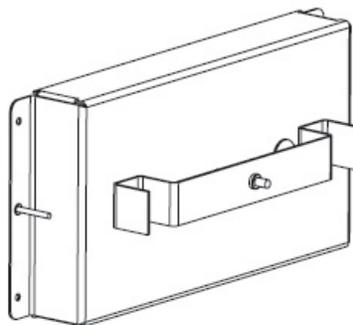

Figure 09
3. Assemble the back can support bracket to the back can by inserting the 1/2" x 1.5" screw through the can and thread it onto the bracket. Do not over tighten, leave finger loose. Refer to Figure 09.